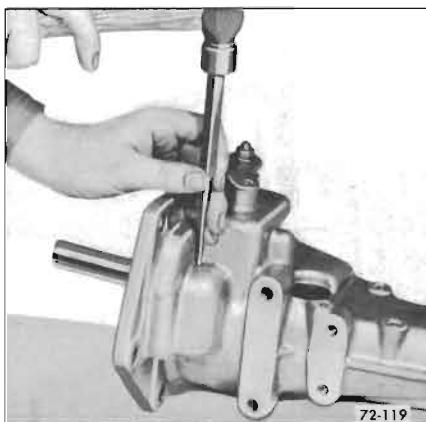

Figure 72-119—Removing Reverse Idler Shaft Lock Pin
1. With case extension removed from transmission, drive reverse idler shaft lock pin into case. See Figure 72-119.